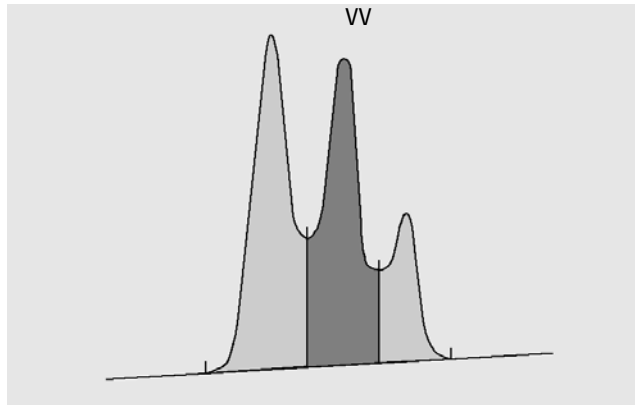

Figure 9 Area Measurement for Valley-to-Valley Peaks
- for valley-to-valley (VV) peaks, the area above the baseline, segmented with vertical dropped lines from the valley points, as in Figure 9 on page 30,